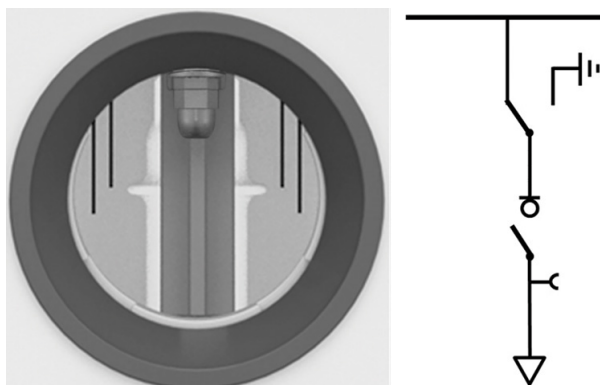

Figure 4-4: Open position (VI open and change-over in busbar position)
1. Press the opening button (3).
2. Check that the switch's position indicator (5) indicates the OFF position. In the inspection window, the opened **Open position** is also visible; see figure 4-4.
3. If the selector control knob is not in the middle position (8) turn it to this position; both openings (6) and (9) will then be covered.